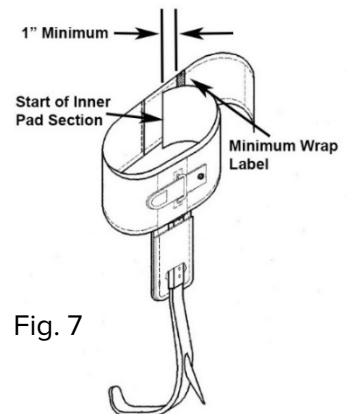

Fig. 7
3. Wrap the pad (hook fastener portion) around the leg until the pad is snug to the leg but never so tight as to restrict circulation. Ensure the MINIMUM WRAP LABEL is located at least 1" past the start of the inner pad section or beyond (Fig. 7) and adhere it to the loop fastener portion. This ensures a proper wrap. Failure to do so may cause release, resulting in serious injury or death.